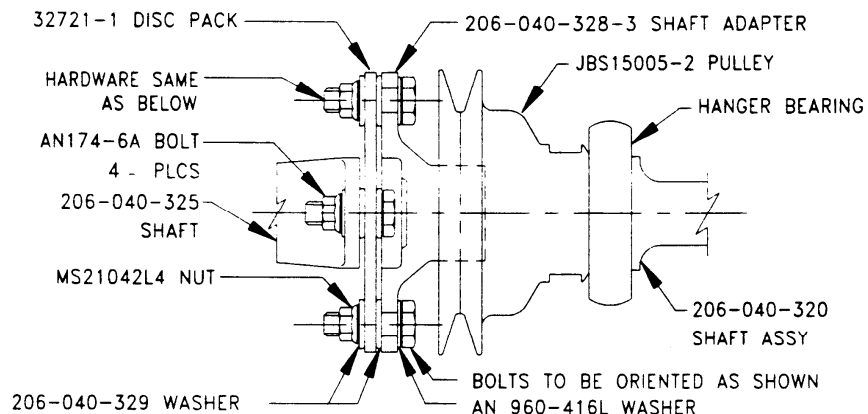

Figure 202. Pulley / Disc Pack Installation
(206B, 206L3 ONLY) (Ref. Fig. 202)
NOTE: The radius edge of the washer must be mated against the disc pack. See Fig. 202.
2. After the disc pack is in place, add (1) existing 206-040-329 washer on each bolt under the existing Bell nut, with the radius edge facing the disc pack. Insure that the bolts are installed as described with the bolt head on the adapter side of the assembly, then torque nuts per manufacturers specifications.
4. Attach the forward shaft assy, P/N 206-040-325, to the disc pack/adapter assy near the pulley with existing hardware oriented and installed as shown in Fig. 202. Insure that radius edge of washers mate against disc pack.